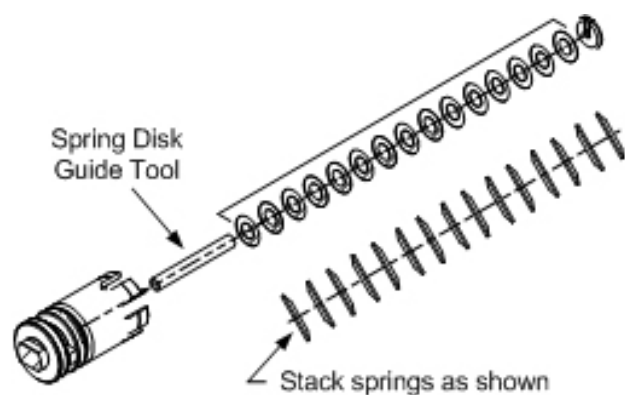

Fig. 7.10. Stacking the Belleville Springs
13. Stack the **15 Belleville springs** onto the 1/4-inch thin wall plastic tubing, as shown in Figure 7.10.